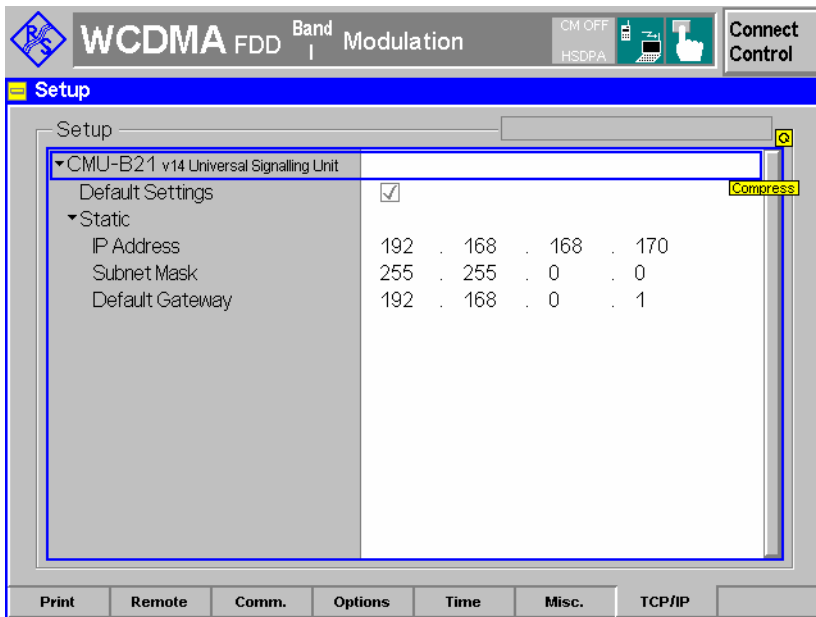

Fig. 9-2 IP address settings for the R&S CMU
3. If you wish to change the IP address of the R&S CMU, you can do this in the *Setup* menu; see Fig. 9-2 on p. 9.3.